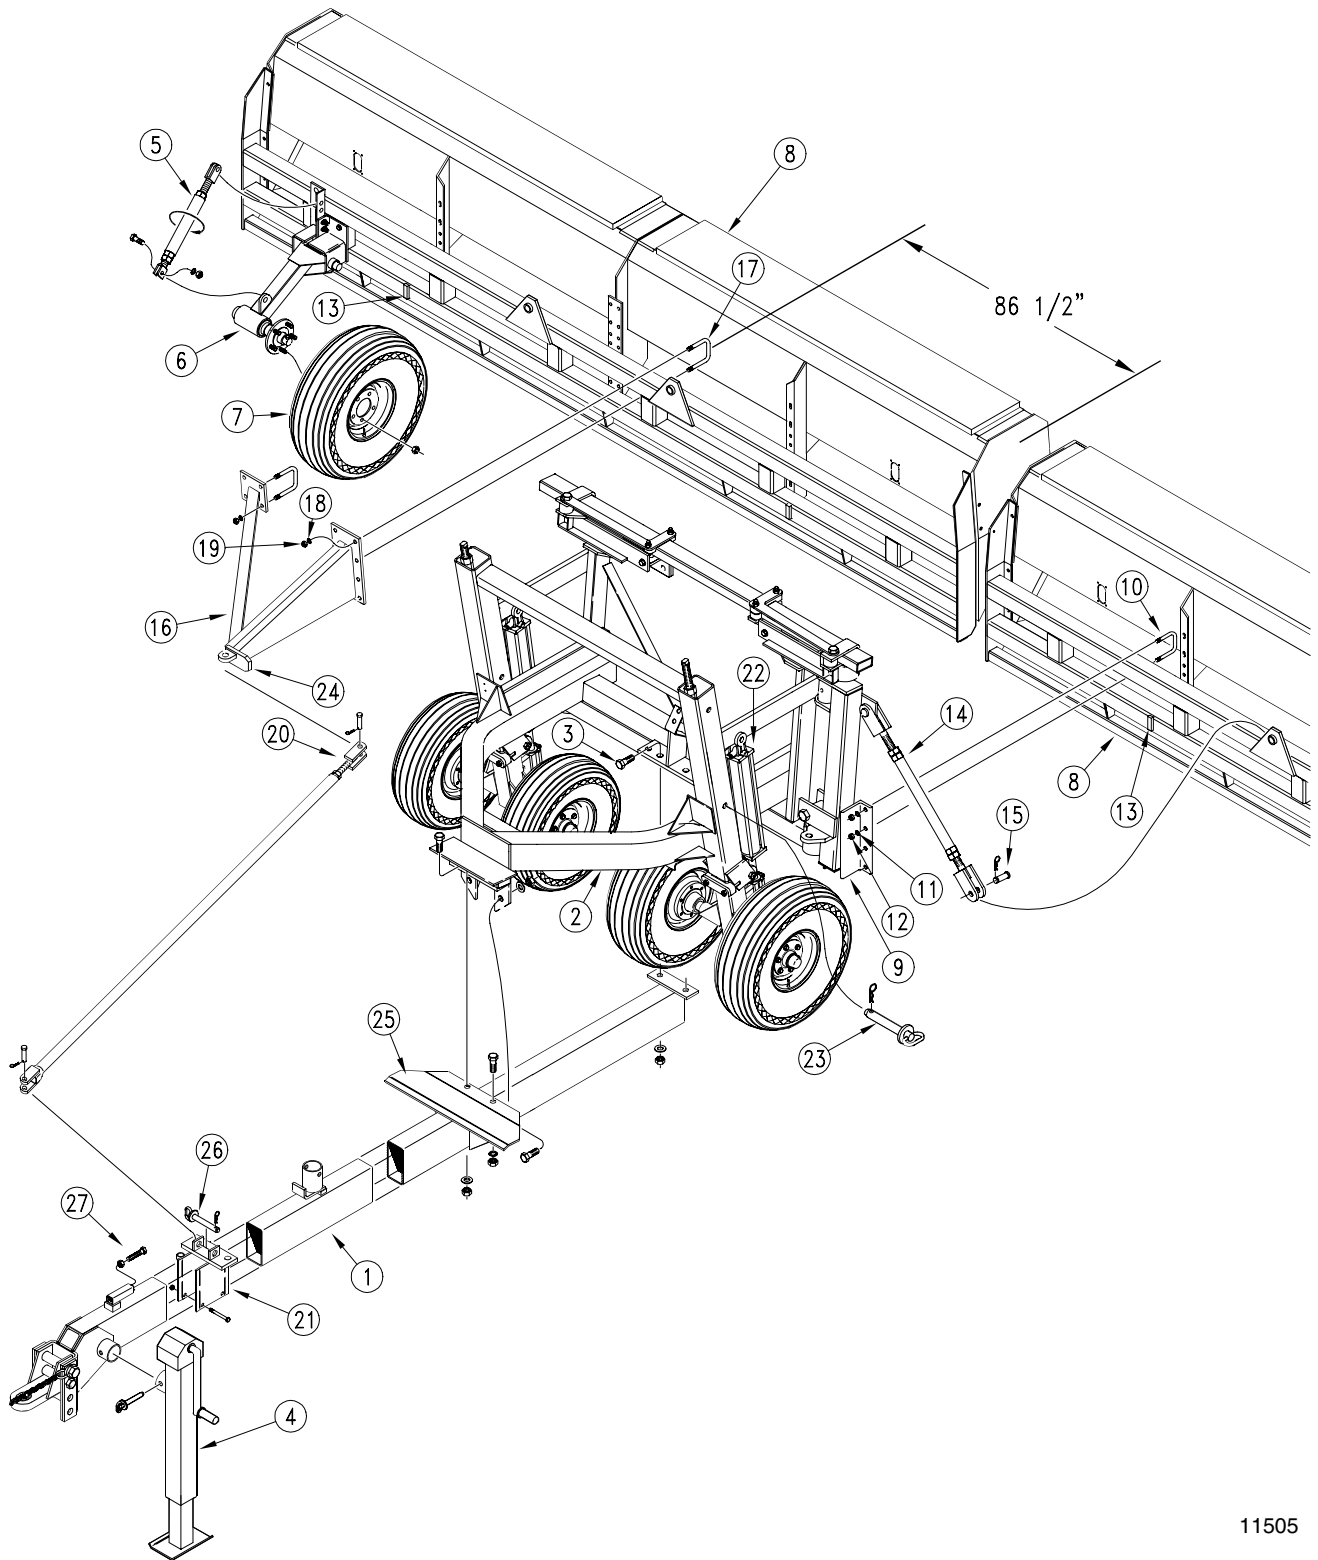

Figure 1
6. Locate drill transport stabilizer frame (#16) 86 1/2" from the outside edge of each box frame. (Figure 1) Using 5/8" u-bolts (#17), lock washers (#18) and nuts (#19), mount stabilizer to box frame. Repeat for other side.